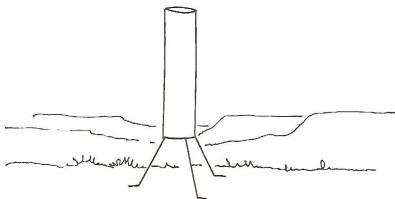

Figure 1. Avoid unprotected areas.
1. Avoid bare ridges and benches. (Figure 1)